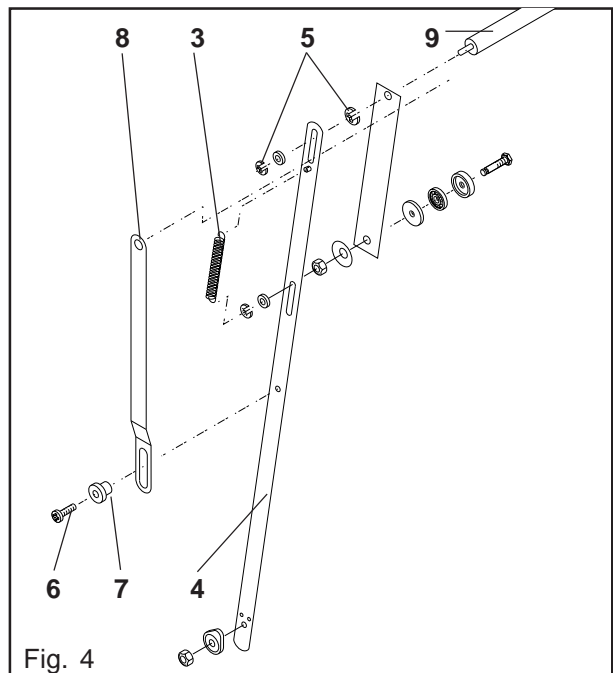

Fig. 4
- Unhinge the spring (3) for the scraper arm (4). (Fig. 4).
- Remove the retaining rings (5) and the washers in front of the outer scraper arm (4). (Fig. 4).
- Remove the fastening screws (6) and the collared bushes (7) of the lever arms (8) on the bearing housing. (Fig. 4)
- Pull the outer scraper arm (4) from the axle (9), remove the retaining ring (above the inner scraper arm) on one side of the axle, then pull the axle (9) out of the other side of the bearing housing (10). (Fig. 4, 5)